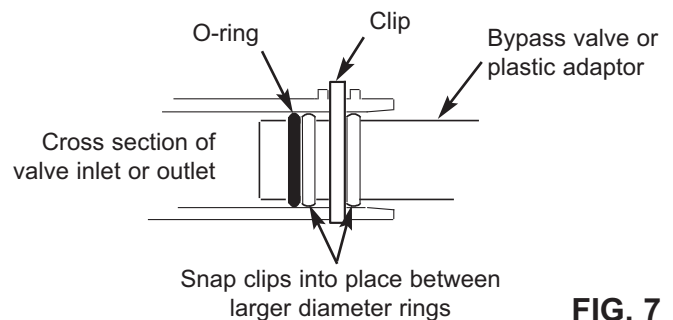

FIG. 7
d. Snap the two large plastic clips in place on the inlet and outlet ports, from the top, down (See Figure 7). Be sure they snap into place. Pull on the bypass valve, or installation adaptors, to make sure they are held securely in place.